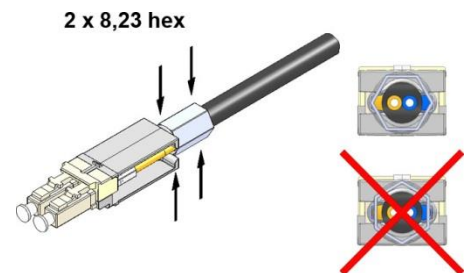

Figure 25
**Important:** The spanner flats of the crimp sleeve have to be arranged parallel to the narrow side of the connector holder (figure 25).